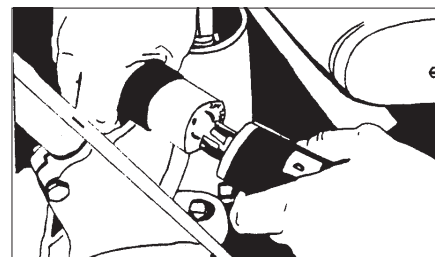
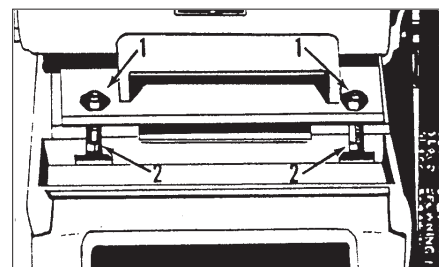

Figure 1
Figure 2
2. Disconnect the handle plug connection. See figure 1.
6. Using the $\frac{9}{16}$ " wrench, remove the two hex nuts (1).
7. Lower the motor locating screws (2). To lower the motor locating screws, turn the screws clockwise. Make sure the screws are aligned with the openings at the front of the motor platform. See figure 2.